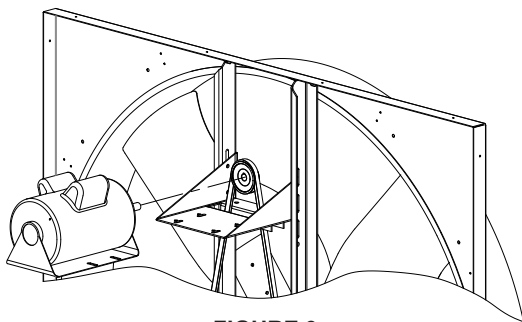

FIGURE 3
1. Install the motor and base as shown in Figure 3 using the eight 5/16" bolts provided. The bolts used to attach the motor base should be left loose until the drives are mounted.